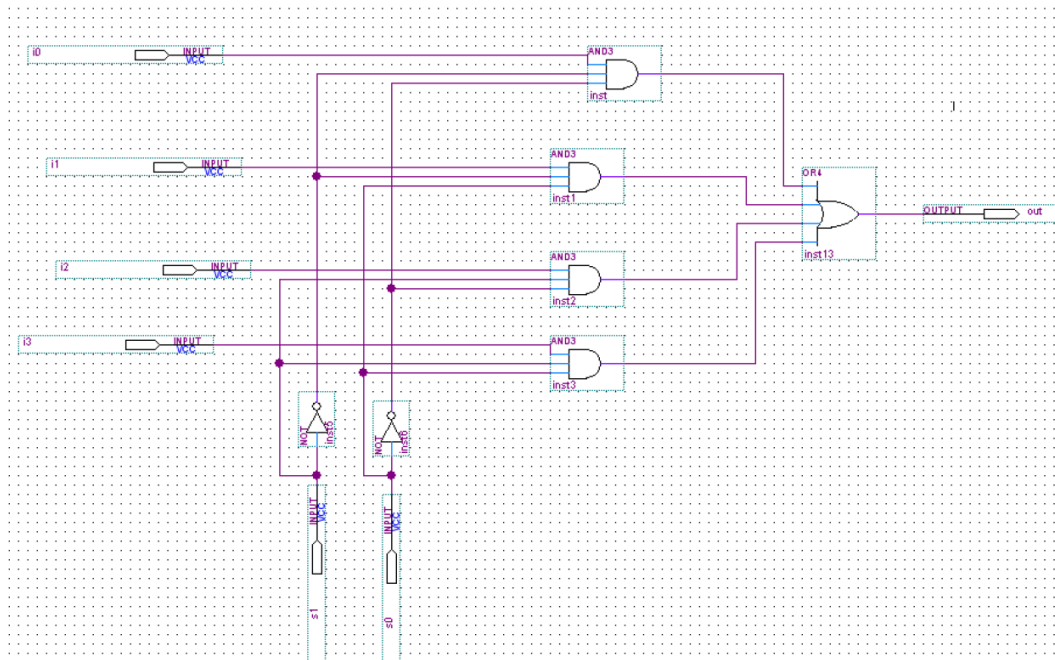

Figure 3.1: Mux Schematic.
3. Place three 3-input AND gates and one 4-input OR gate from the primitives library, and wire them as shown in Figure 3.1 using rubberbanding to connect components.